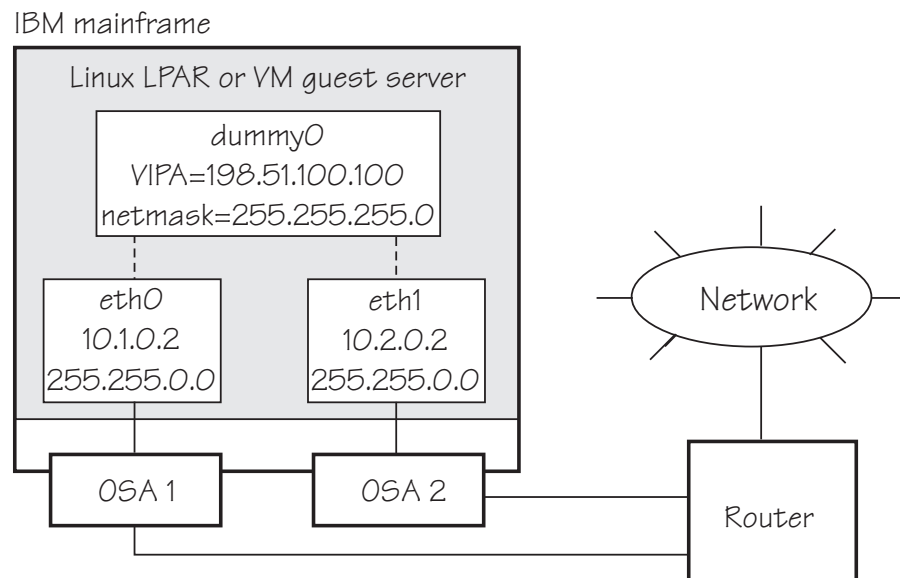

Figure 47. Example of using Virtual IP Address (VIPA)
- Static routing (shown in the example of Figure 47).
Figure 47 shows the network adapter configuration that is used in the example.